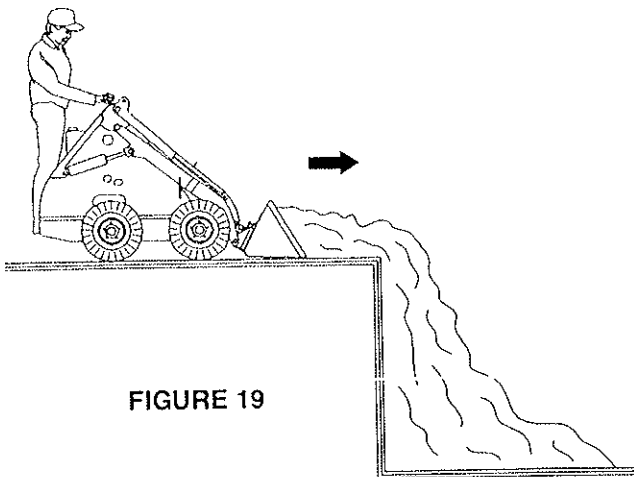

FIGURE 19
1. When filling a trench or a hole, drive up the hole with bucket low or push material up to edge, as in **Figure 19**.